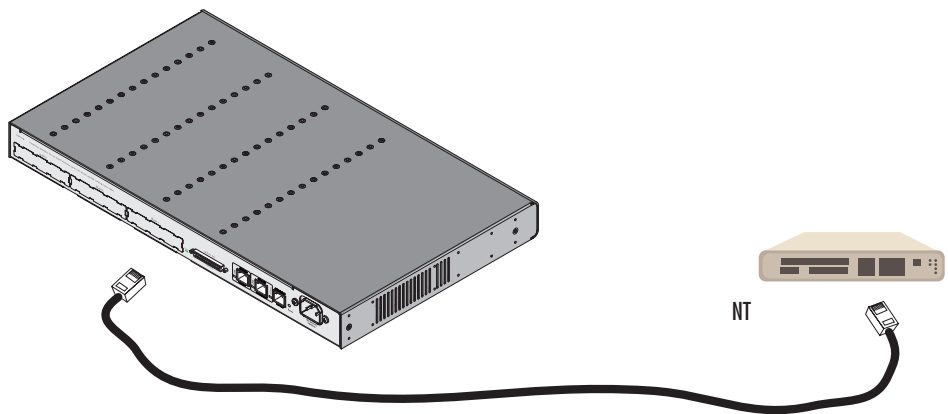
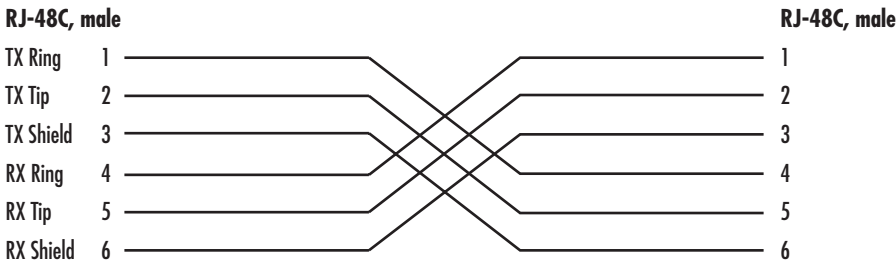

Figure 103. Connecting an E1 PRI port to an NT
Figure 104. E1 crossover cable
The E1 PRI is usually connected to a PBX or telco witch—local exchange (LE). Type and pin outs of these devices vary depending on the manufacturer. In most cases, a straight-through RJ-45 to RJ-45 can be used to connect the PRI with a PBX (an NT) (see figure 103). A cross-over cable is required to connect to an LE, as illustrated in figure 104.